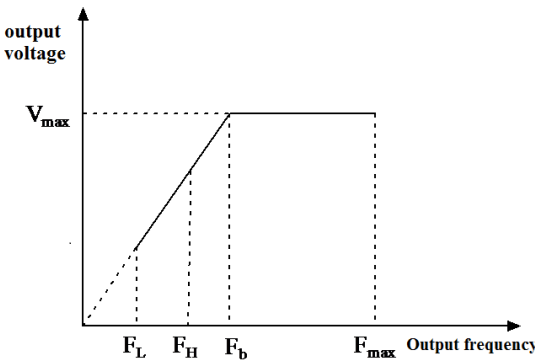

Figure 6-8: Limit frequency parameter schematic diagram
Lower limit frequency is the lowest frequency allowed by user setting. As  $F_L$  in figure 6-8:
4. Relationships of maximum output frequency, upper limit frequency, and lower limit frequency are shown in figure 6-8. The order shall be noted in setting.